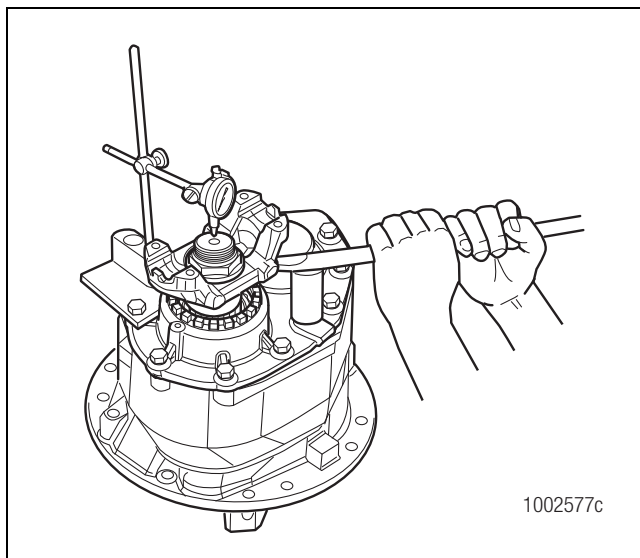

Figure 10
2. Install a dial indicator and position the tip on the end of the input shaft. Check and record the input shaft end play. Figure 10.